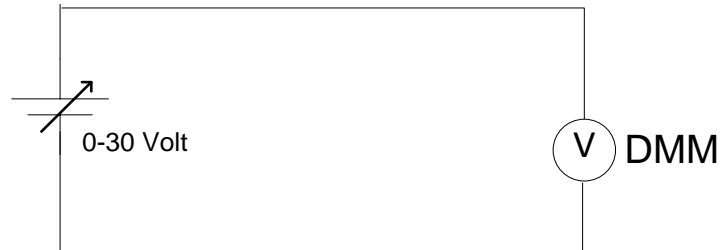

Fig.3
- 1- Connect the circuit as shown in Fig.3